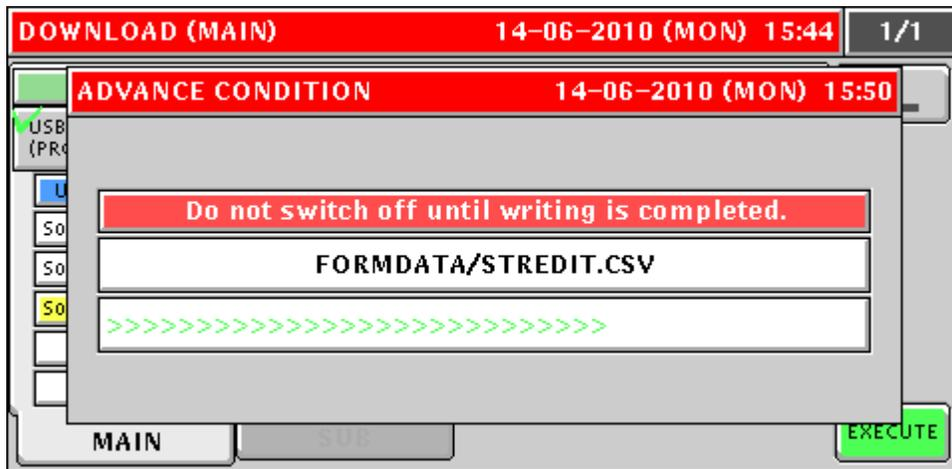

Figure 1.8. Firmware Download – This May Take Up to 12 Minutes
20. The screen will show the firmware download progress. See Figure 1.8.